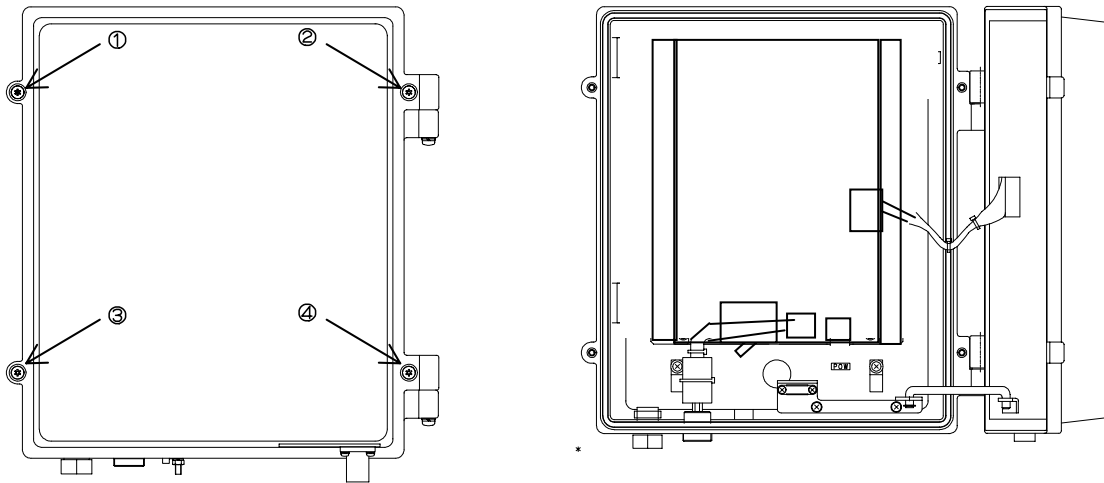

Figure 5-9 Opening and Closing the AP-IFU Cover
- (1) Loosen the special screws ① to ④ to open the cover as shown in Figure 5-9.
- (2) Fix the cover using the stopper ⑤ as shown in Figure 5-9.
- (1) Fix the stopper ⑤ on the main unit as shown in Figure 5-9.
- (2) Close the cover and tighten the special screws ① to ④ as shown in Figure 5-9.